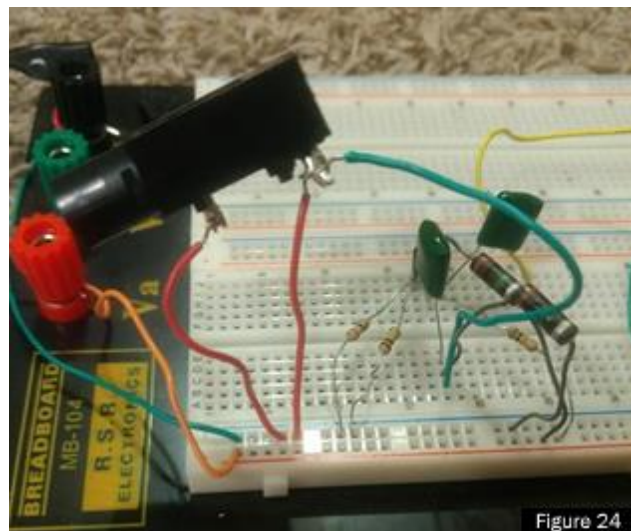

Figure 24
25. Connect the input jack to the first capacitor as in figure 24.